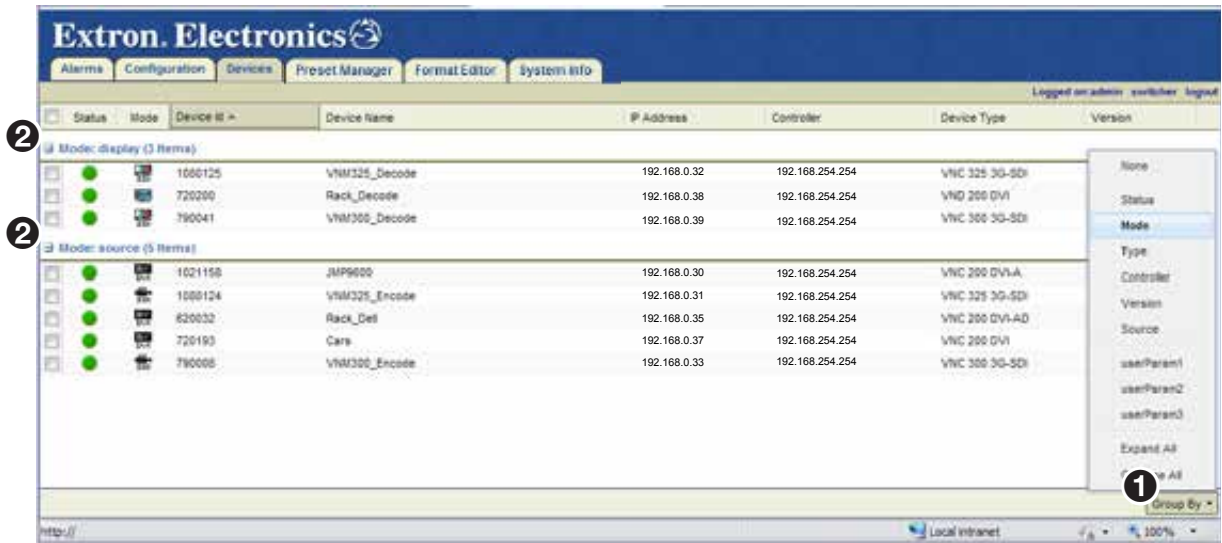

Figure 28. Grouping Devices
Devices can be sorted in groups using the **Group By** menu (see figure 28, ①).
- After selecting a grouping option, groups can be further sorted using column sorting. In figure 28, the devices are grouped by mode and sorted by device ID in ascending order.
- Grouped devices can be expanded and collapsed by clicking on the square icon  located next to the group name (②).